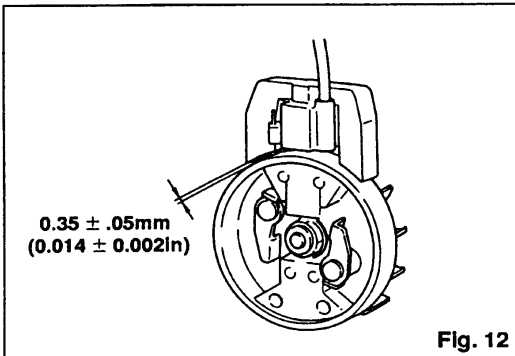

Fig. 12
- The gap between the ignition coil and the fly-wheel magneto should be $0.35 \pm 0.05\text{mm}$ ($0.012 \sim 0.016$ in). Fig. 12